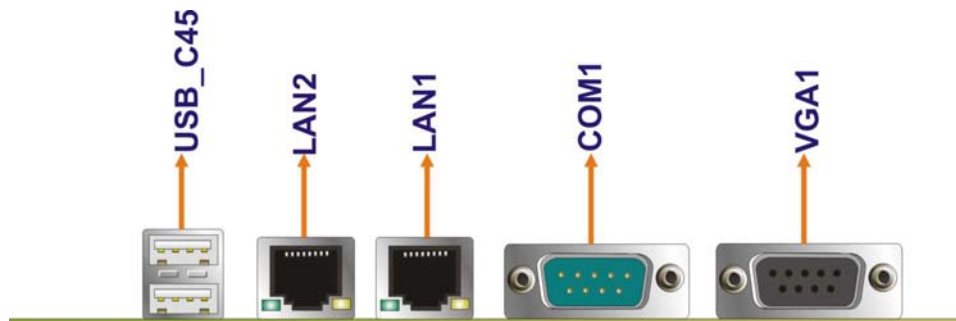

Figure 3-22: External Peripheral Interface Connector
CN Location: See **Figure 3-22**
- CN Location:** See **Figure 3-22**